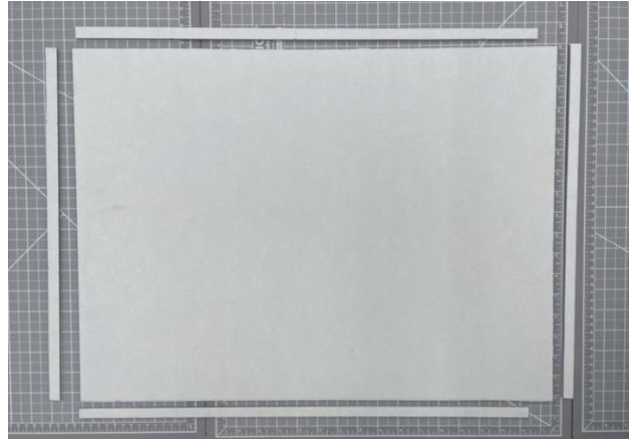

Figure 2.
2. Cut eight ½" wide strips for the interior bumpers of the mount as shown in figure 2 (four for top of mount and four for bottom). Cut to these standard sizes: